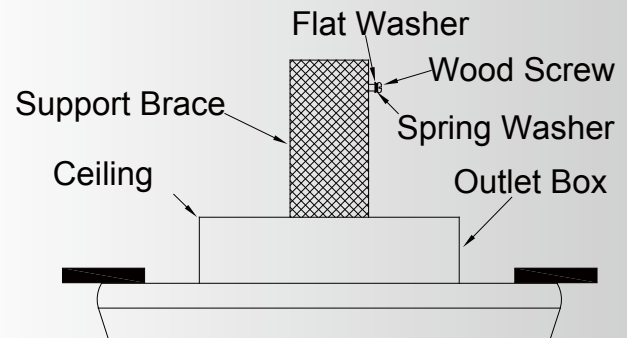

Fig. 13
Step 1. Drive a wood screw and washers into the side of the brace that holds the outlet box. Leave 3mm (1/8") of space between the support brace and the washer. (Fig. 13)